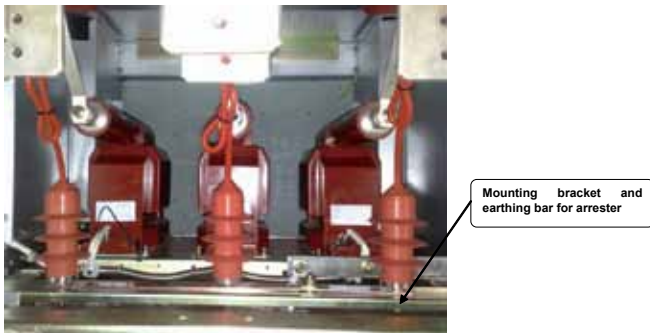

Figure 6/12: Installing surge arrester
- Remove the cable between the arrester and copper connection (See figure 6/12)